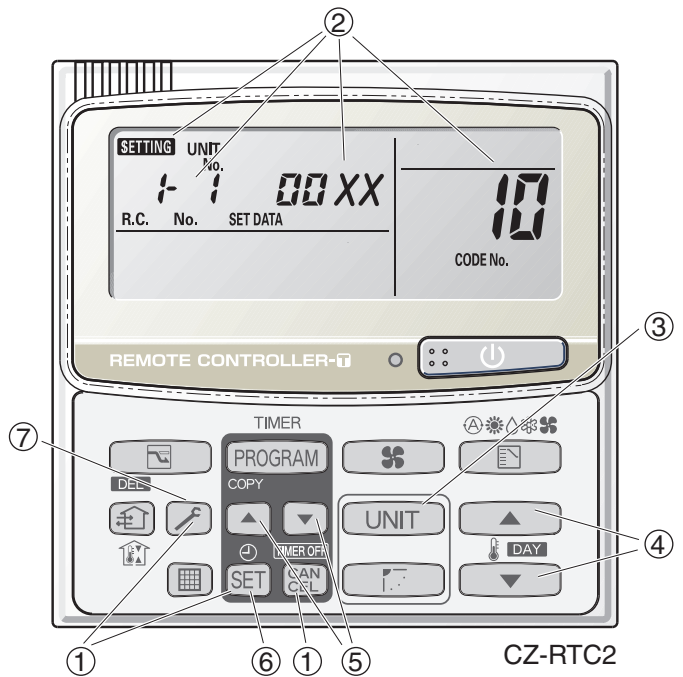

Fig. 7-2
- "**SETTING**," unit No. "**1-1**" (or "**ALL**" in the case of group control), item code "**10**," and settings data "**00XX**" are displayed blinking on the remote controller LCD display (Fig. 7-2).